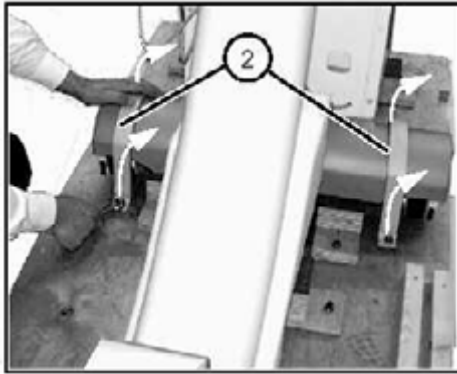

Fig. 5: Retaining clamp\_2
- Unscrew the retaining clamp (2/Fig. 5 / p. 7) on the left and right (screws).